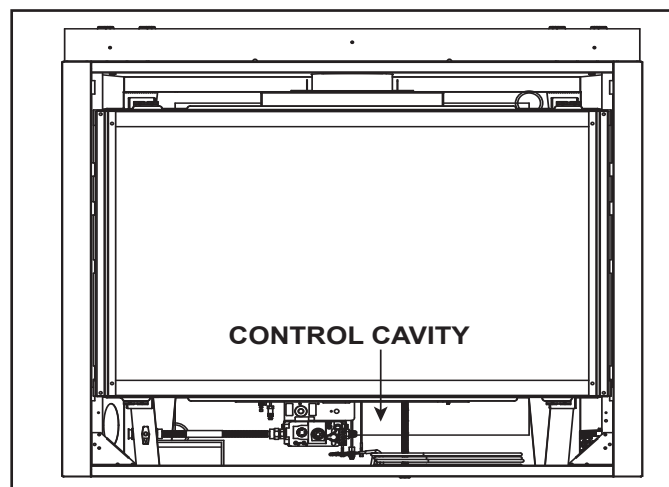

Figure 3.5 Control Cavity Location - Generic Fireplace Show
The IntelliFire™ Plus intermittent pilot ignition system comes with a battery backup system that enables the system to operate in a power outage. The system offers seamless transition from household AC power to battery backup. A factory-installed battery pack is located in the control cavity of the appliance. See Figure 3.5. Battery longevity and performance will be affected by long term exposure to the service temperatures of this appliance.
1. Access the control cavity of the appliance. See Figure 3.5 for location. Lift the decorative front off of the appliance.
2. Locate the battery tray and insert four AA cell batteries. See Figure 3.5. Battery polarity must be correct or module damage will occur. A complete wiring diagram is included in the Electrical section of the appliance Installation Manual.